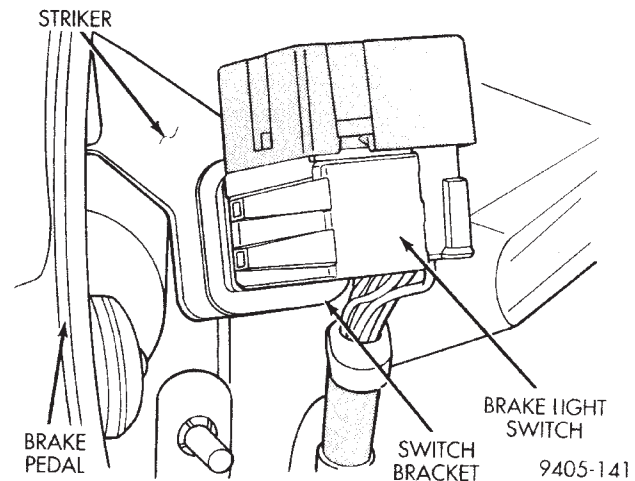

**Fig. 148 Stop Lamp Switch**
(1) Depress and hold the brake pedal while rotating stop lamp switch (Fig. 148) in a counter-clockwise direction approximately 30 degrees.
(2) Pull the switch rearward and remove from its mounting bracket.
(3) Disconnect wiring harness connector from stop lamp switch.
(2) Connect the wiring harness connector to the stop lamp switch.
(3) Mount the stop lamp switch into the bracket using the following procedure. Depress the brake pedal as far down as possible. Then install switch in bracket by aligning index key on switch with slot at top of square hole in mounting bracket. When switch is fully installed in bracket, rotate switch clockwise approximately 30° to lock switch into bracket.
**CAUTION:** Do not use excessive force when pulling back on brake pedal to adjust the stop lamp switch. If too much force is used, damage to the stop lamp switch or striker (Fig. 148) can result.
(4) Gently pull back on brake pedal until the pedal stops moving. This will cause the switch plunger to ratchet backward to the correct position.